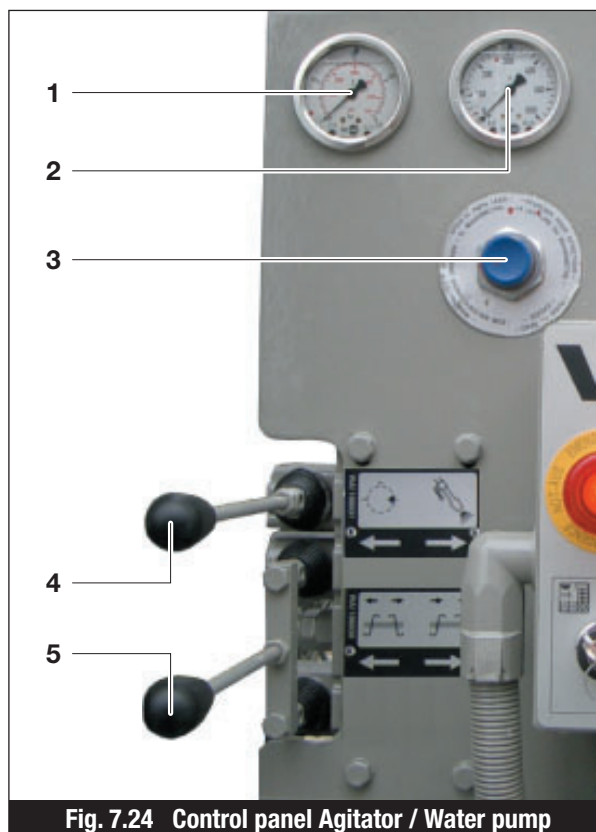

Fig. 7.24 Control panel Agitator / Water pump
- ☞ During cleaning work the control lever (Item 5, Fig. 7.24) must always be in the 0 position and must on no account be moved during the cleaning work!
The control lever “Agitator” (Item 5, Fig. 7.24) switches the agitator on (even when the Emergency Stop button has been pressed).
The manometer Item 1, Fig. 7.24) shows the actual pressure at the agitator / water pump (optionally: high pressure water pump and compressor). The maximum pressure that can be set is 210 bar.
The control lever "Water pump" (Item 4, Fig. 7.24) switches the water pump on.
High pressure water pump or compressor, available as an option, are controlled by the same control lever (Item 4, Fig. 7.24).
The control lever "Vibrator" (Item 8, Fig. 7.24) switches the vibrator on.
By-passing or blocking the manometer protection valve (Item 3, Fig. 7.24) the actual pump pressure is shown at the manometer (Item 2, Fig. 7.24). At 320 bar the hydraulic pump has switched to “0”. The probable cause is a blockage in the conveying pipe.